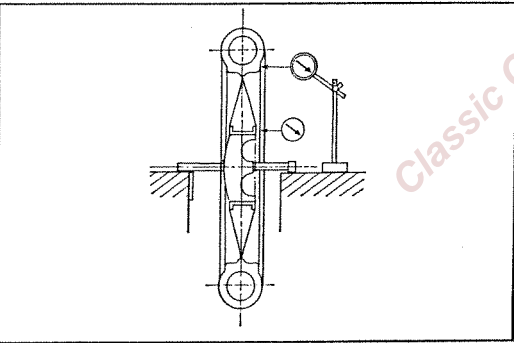

Fig. 4.72 Measurement of deflection of rim
1. Measurement of deflection and eccentricity of the rim. (Refer to Fig. 4.72)